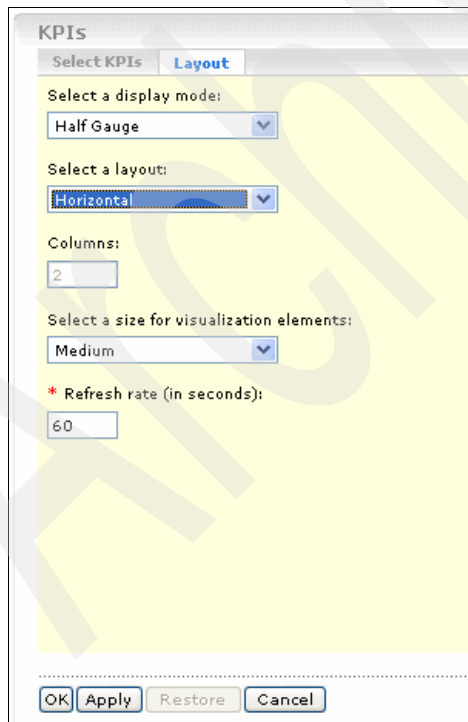

Figure 10-90 Selecting a half gauge to display the predefined KPI
10. In the KPIs - Layout panel (Figure 10-90), select **Half Gauge** with a **Horizontal** layout. Accept the defaults for the other values. Click **OK**.